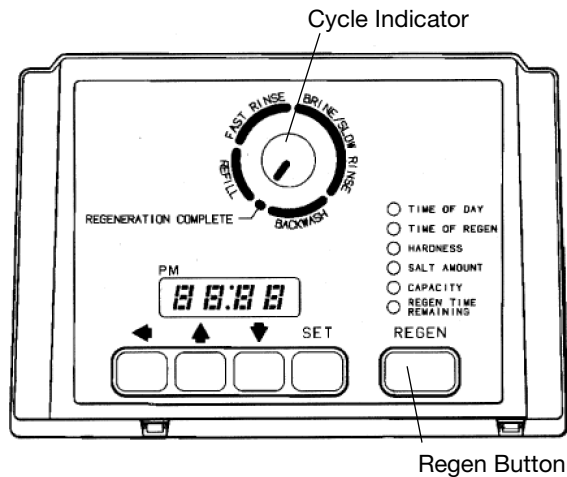

Figure 6
**Note:** The following steps will require turning the cycle indicator (Figure 6) to various positions.